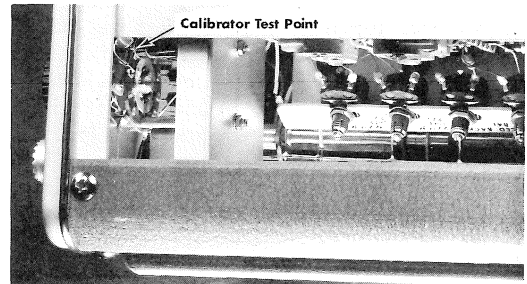

Fig. 6-3. Location of the Calibrator test point.
2. R879, Calibrator Adjust. Connect the dc voltmeter to the junction of R885 and the cathode of V873 at the point where resistor R885 is connected to the SQUARE-WAVE CALIBRATOR switch. (Refer to Fig. 6-3.) Adjust the Calibrator Adjust control, R879, for a reading of +100 volts on the dc voltmeter.